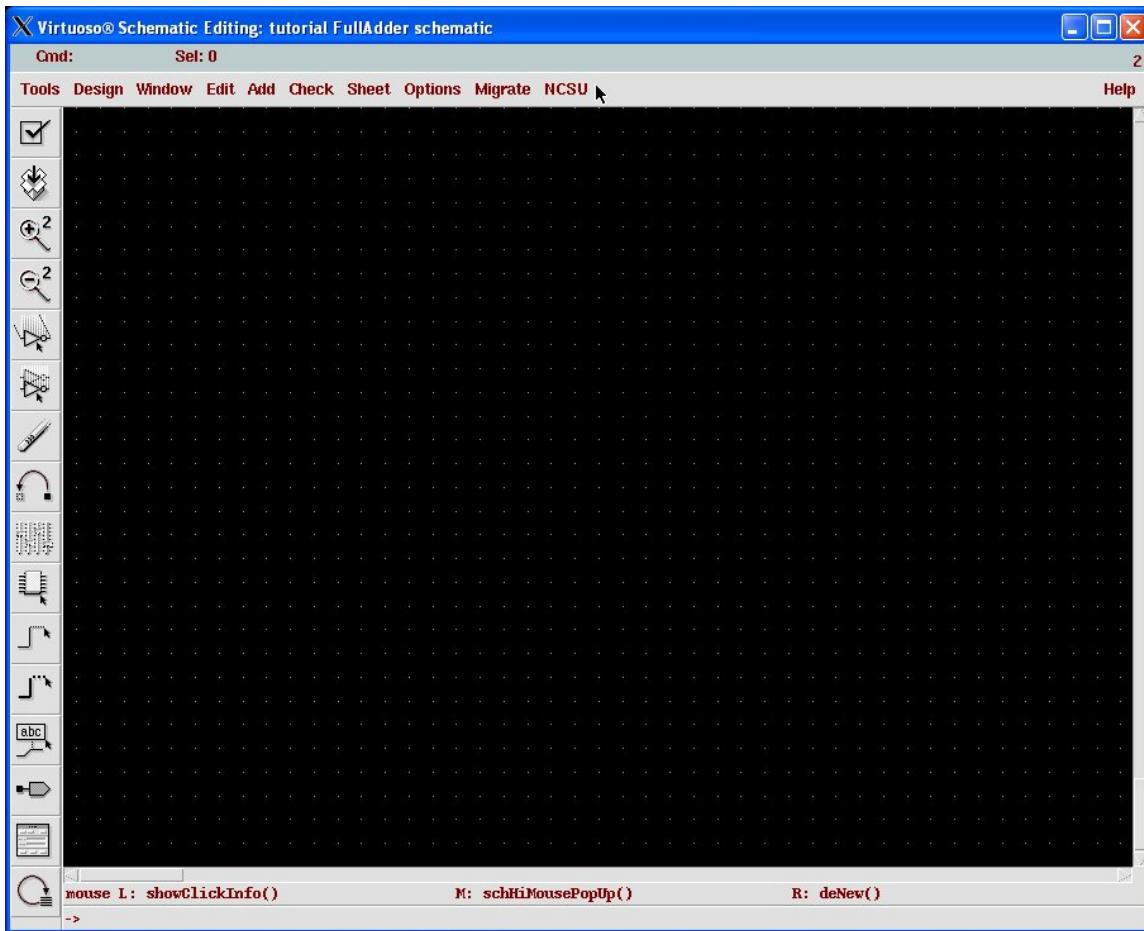

Figure 3.3: Blank Composer window - note command widgets on left of screen
3. A blank Composer schematic editing window appears which looks like that in Figure 3.3.